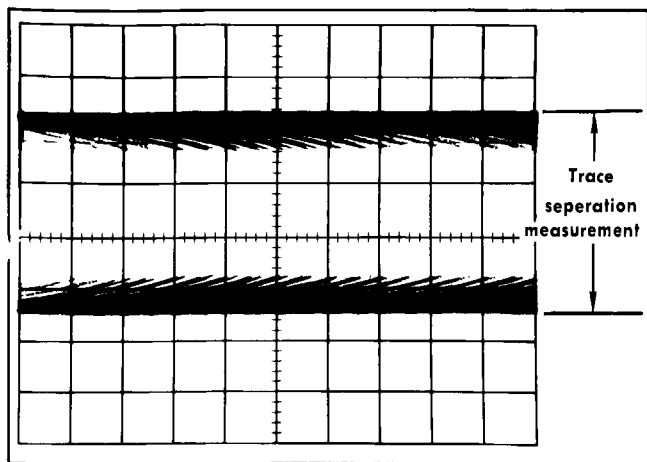

Fig. 5-1. Typical display, amplifier balance check (DC common-mode rejection ratio) —vertical amplifier; 1 mV/CM sensitivity.
f. Check—Deflections as indicated in Table 5-1. See Fig. 5-1 for a typical display.